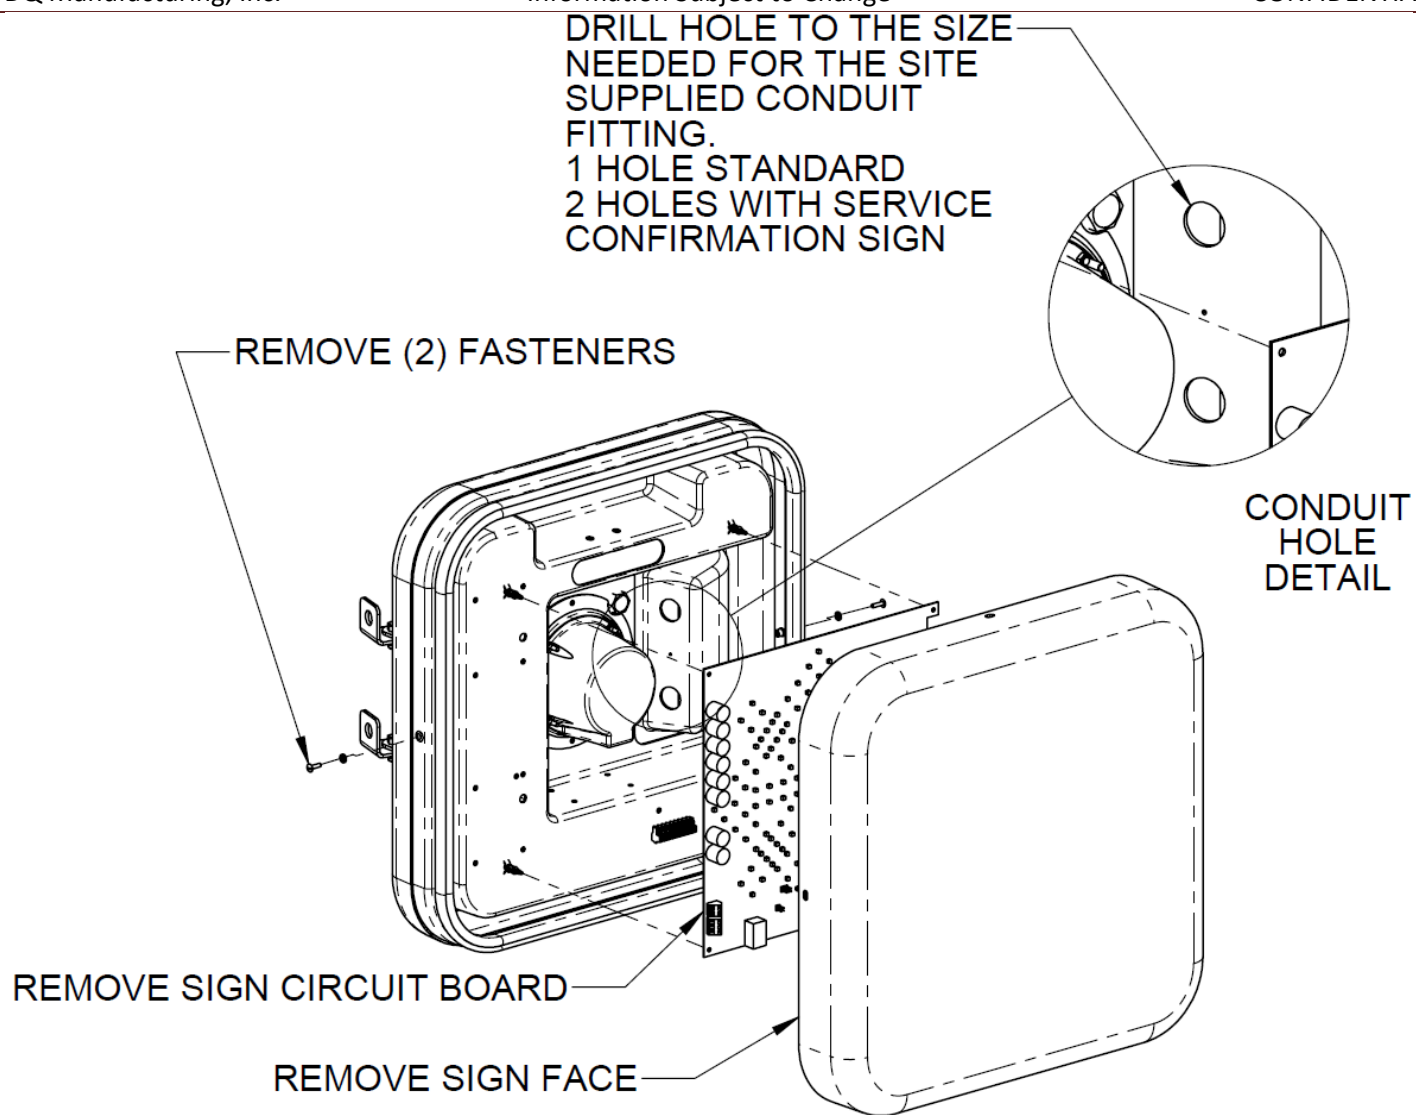
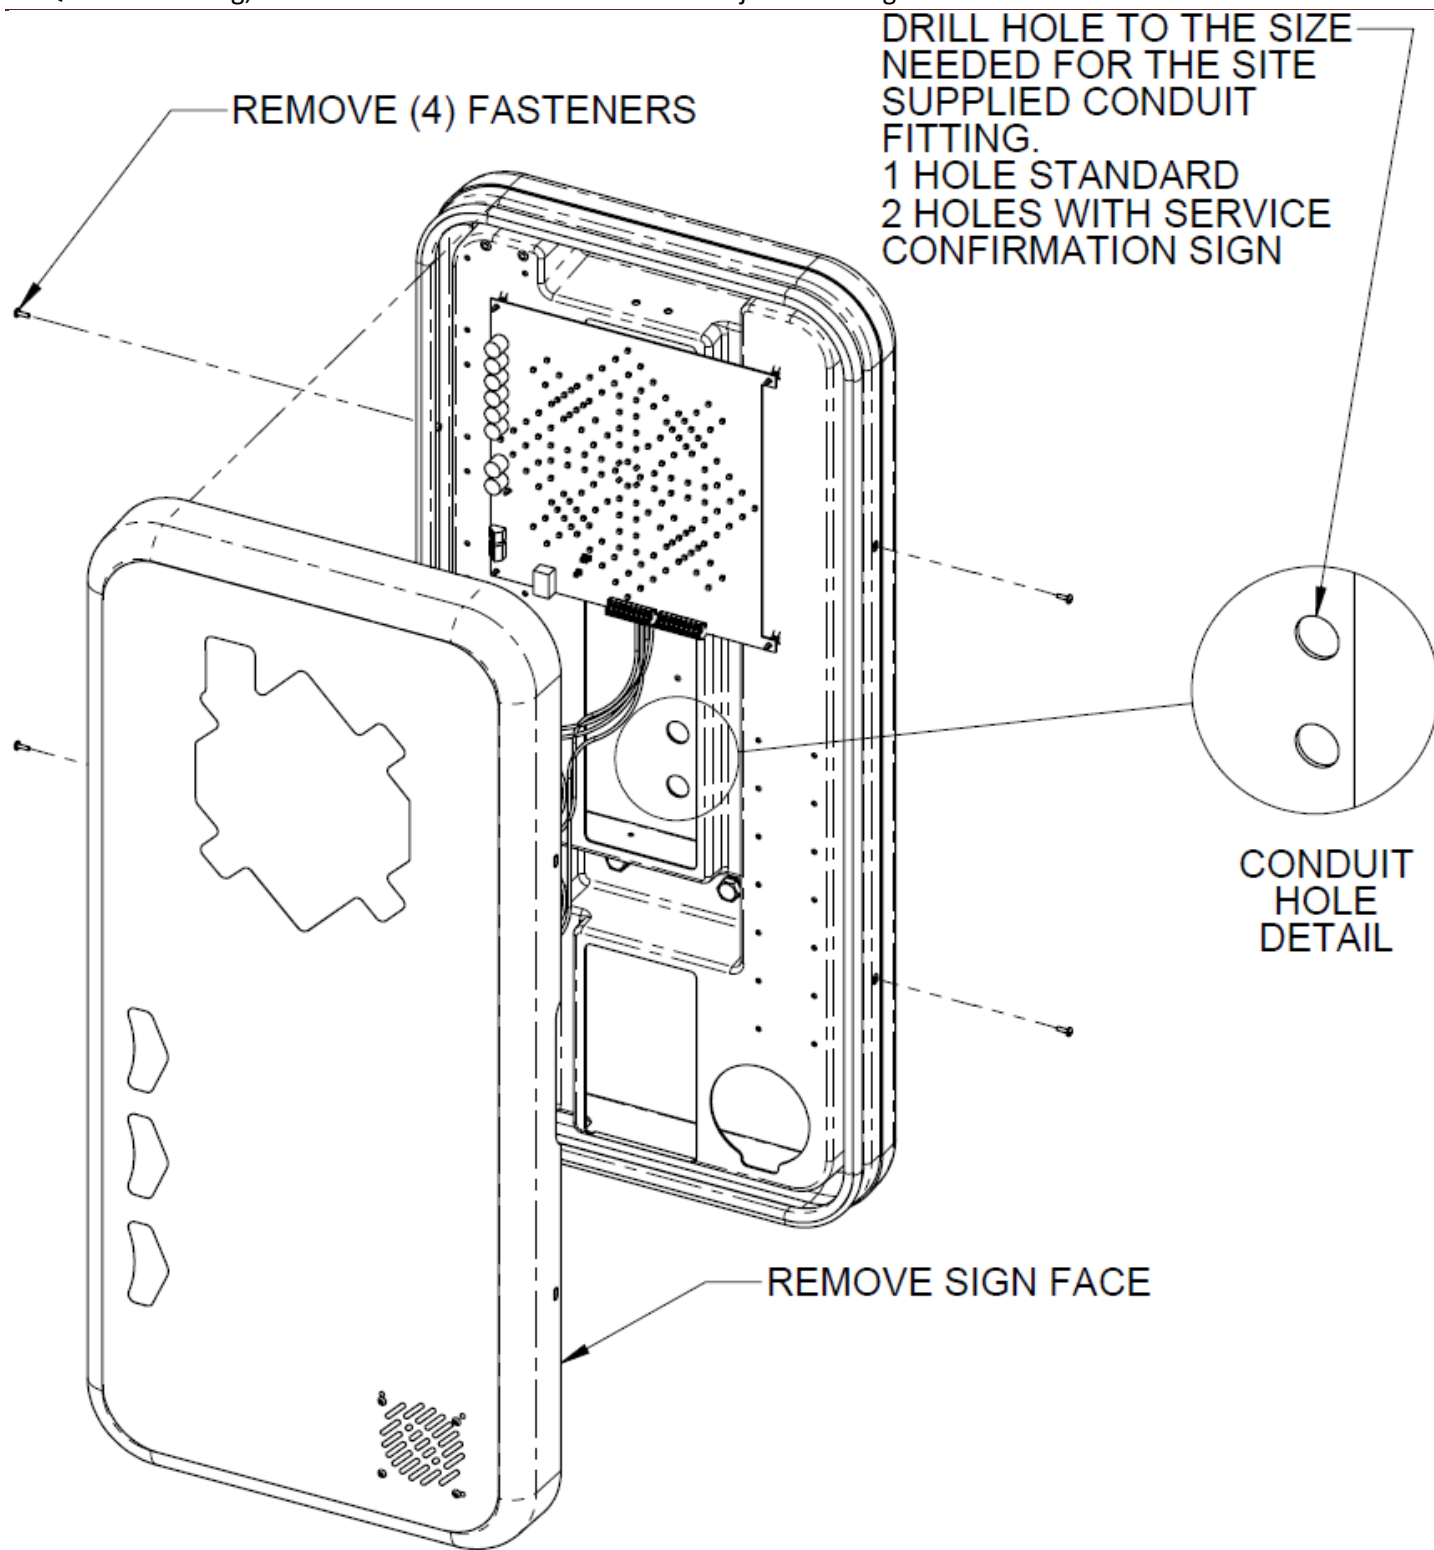

Figure 171 – Basic In-Bay Sign Preparation for Installation
Figure 172 - Deluxe In-Bay Sign Preparation for Installation
- Remove the sign circuit board from the stand-off fasteners for the Basic In-Bay Sign only. Use care to not damage the circuit board or its fasteners. See Figure 171 for the Basic In-Bay Sign and Figure 172 for the Deluxe In-Bay Sign.
- The back cover of the sign enclosure has center marks to aid in the drilling process. Drill one or two holes to the size needed for the site supplied conduit connector. Caution must be taken not to damage the audio speaker. See the detail views in Figure 171 and Figure 172.